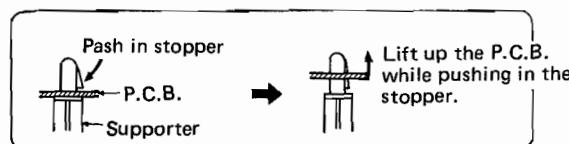

Fig. 4
4. Remove the stopper A (P.C.B. holder) of the FL printed circuit board. (Refer to Fig. 4)